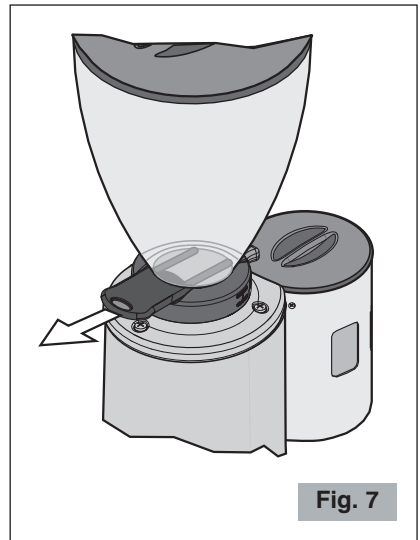

Fig. 7
-  **Make sure that shutter is completely open (to the last click) (see Fig. 7).**